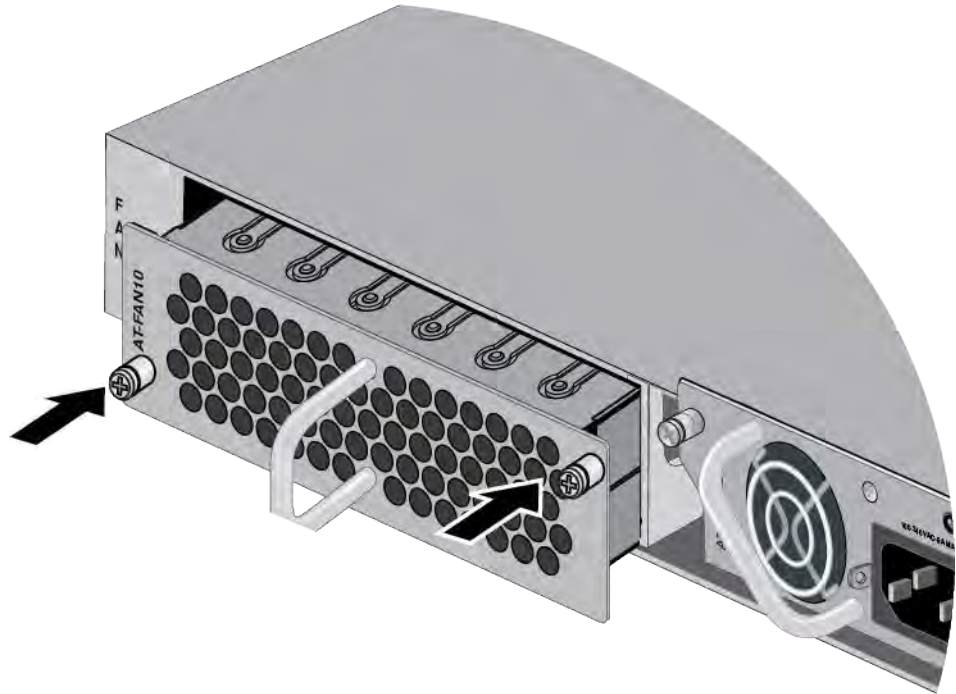

Figure 105. Seating the FAN10 / FAN10R Module on the Internal Connector
2. When you feel the module make contact with the internal connector, gently press on both sides to seat the module on the connector. Refer to Figure 105.